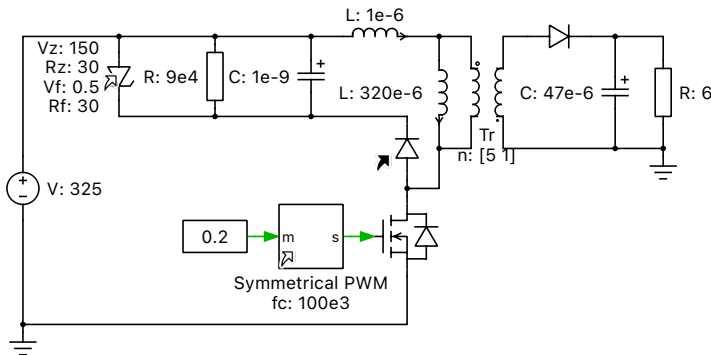

Figure 23: Flyback converter with a model referenced diode
Your Task: Uncomment the Zener diode as shown in Fig. 23.
- 3 *Optional:* Draw the Zener diode as shown in Fig. 23 using the following lines of code in the **Icon** tab: